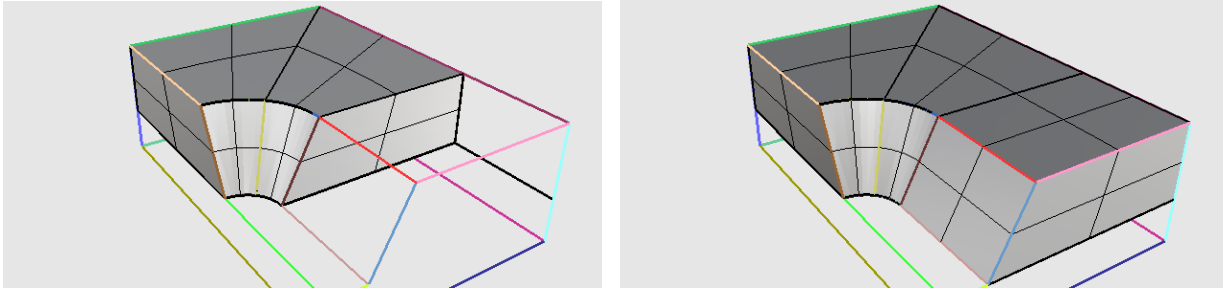

Figure 75: Completing the second (left) and third (right) solids
7. Click **OK** to complete the loft. **Delete** the **borders** (which have remained highlighted). Select the **two** end faces and the newly created lofted **polysurface**, and **Edit|Join** to complete your second **solid** (Figure 75, left). Complete the **third** solid in the same fashion (Figure 75, right).